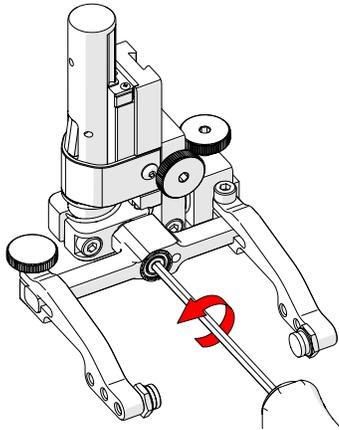

Fig. 59 - Unscrew yoke pivot screw
2. Using the supplied 3 mm hex driver (Fig. 14), unscrew the yoke pivot screw and remove the yoke (Fig. 59).